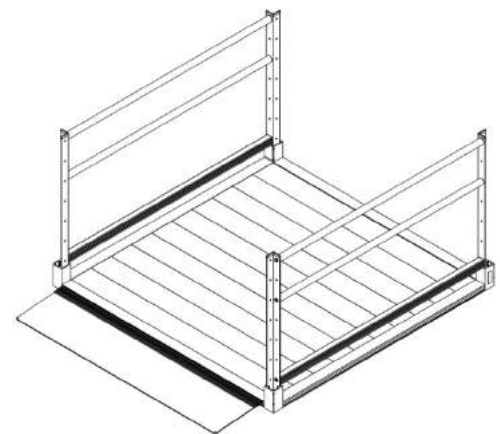

FIG. 2.12
- 2.6.4. Low profile platforms can be elevated when used with support tubes and feet or set directly on the ground and used as a landing pad (FIG. 2.12). When used as a landing pad, it may be used with or without handrails.